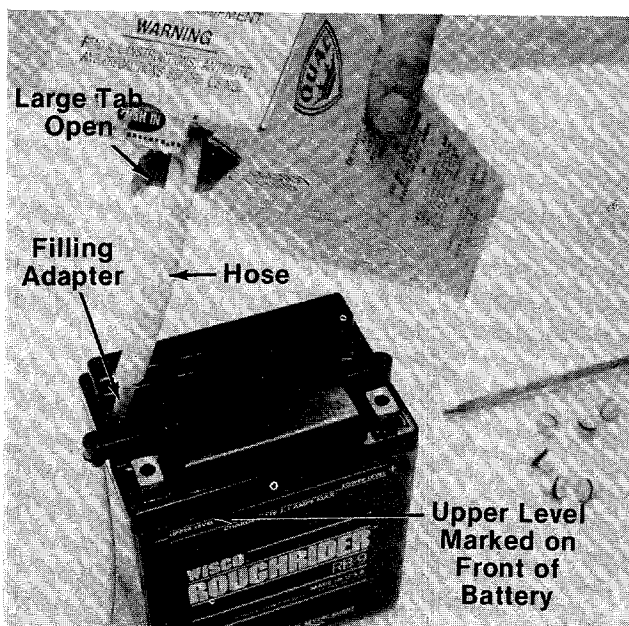

FIGURE 8.
6. Pull out hose from package and hold upright. Squeeze hose forcing all acid back into package. Cut off tip of hose and insert filling adapter. See figure 8.
7. Fill each cell to upper level marked on front of battery. Reassemble fill caps to battery. See figure 8.